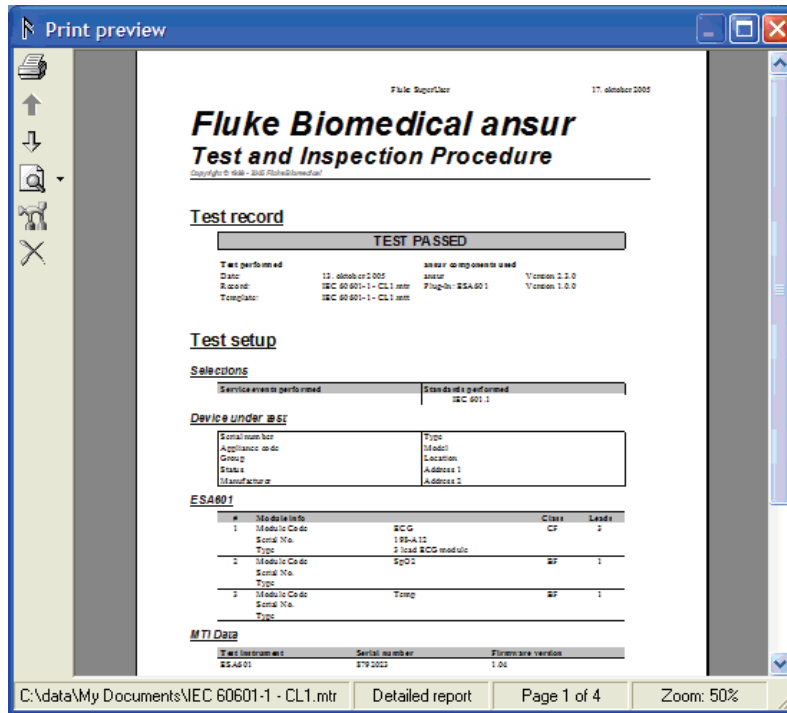

Figure 3-16. Print Preview of Test Report
2. Select the desired print type and click the **Print** button to display the report in the preview window as shown in Figure 3-16.